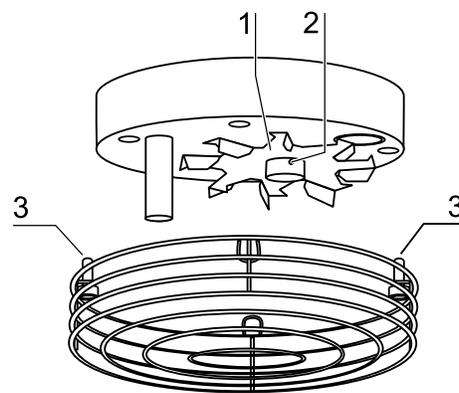

Fig. 20
1. **Fig. 20:** Remove the two retaining screws [3] of the cover using the supplied Allen wrench (3 mm) and remove the cover.